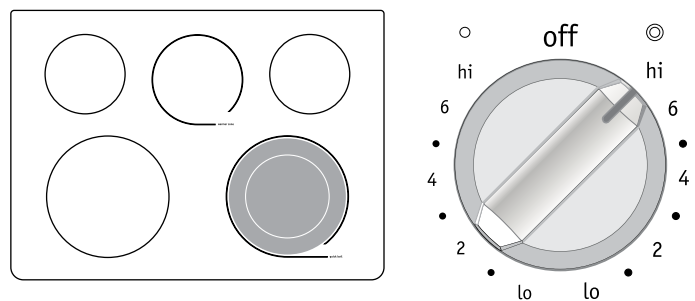
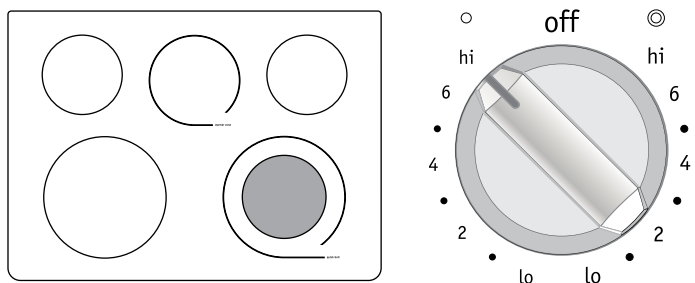

Figure 1 - Heating with both portion*
Figure 2 - Heating with inner (small) portion*
2. Push in and turn the surface control knob clockwise to begin heating both, the inner and outer portions of the element (Marked double - see figure 1) If only the inner heating portion is needed (marked single - see figure 2) for smaller cookware, push in and turn the knob counterclockwise.